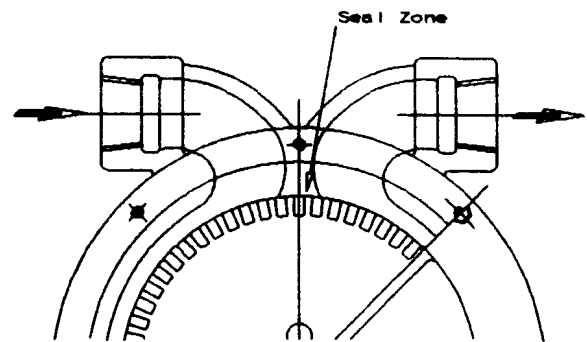

Figure 1
1. Check Impeller and seal zone of Body for damage or wear. Refer Fig.1. Replace Impeller if blades have been broken or wear is excessive.